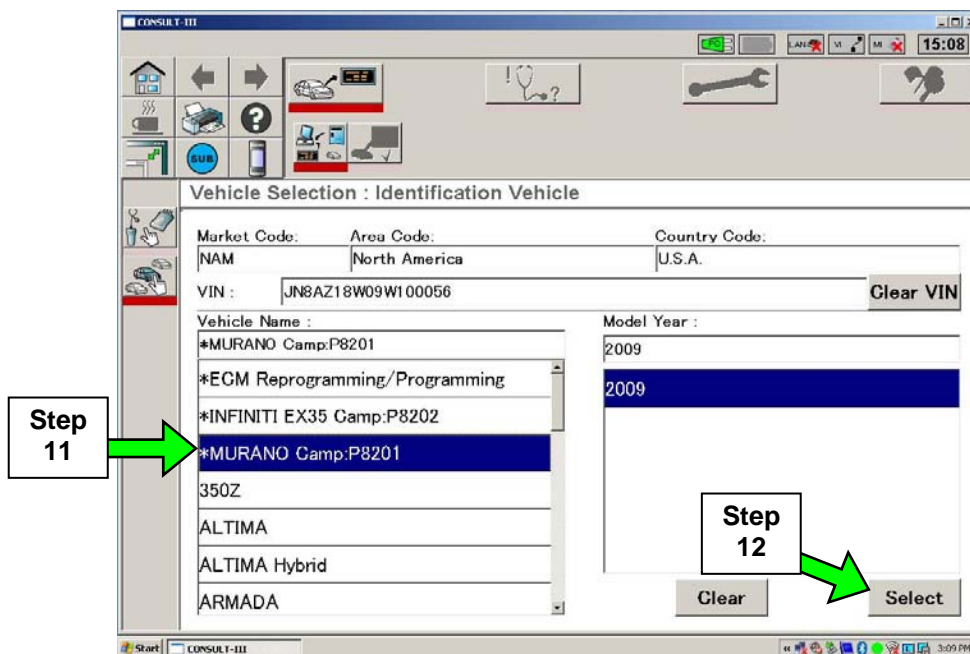

Figure 2
11. Select ***MURANO Camp:P8201** (see Figure 2).